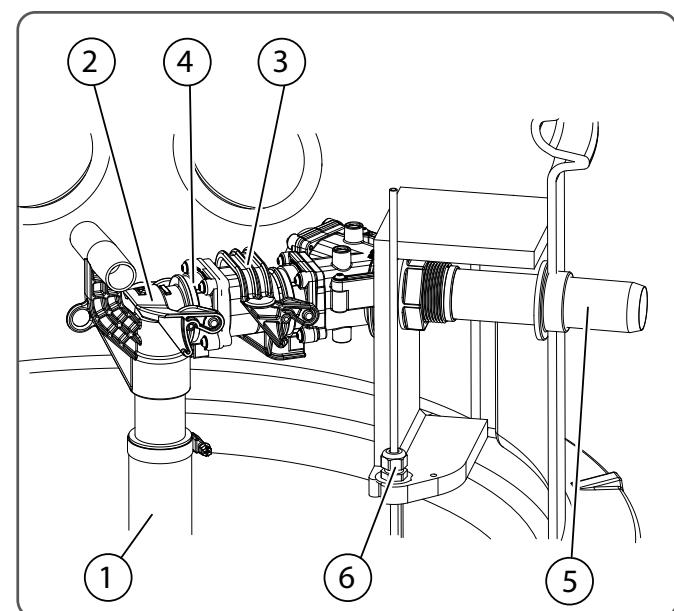

Fig. 17
**Recommendation:** If the backwater flap is to be serviced, remove the pump completely with the flap, this makes it easy to empty the pressure pipe. When servicing the pump, only open the red snap closure, in this case the pressure pipe will not be emptied. When servicing the pump with backwater flap, only the black snap closure is to be opened (see Fig. 17).